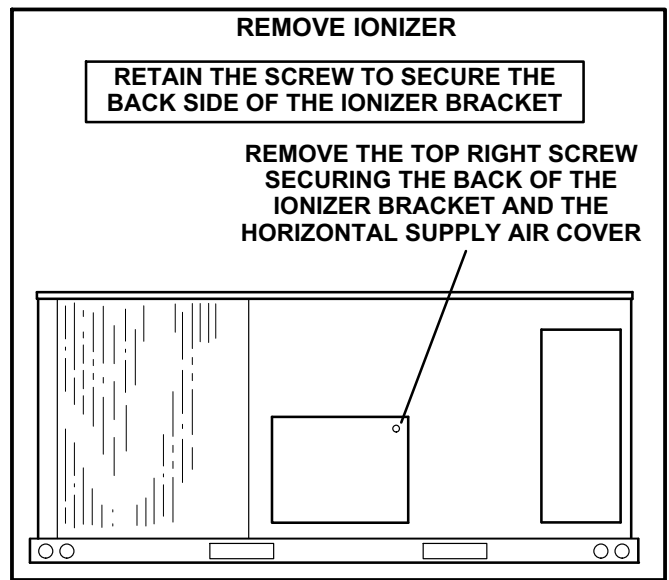

FIGURE 33
- 1- On the back side of the unit, remove the screw securing the back of the ionizer bracket. See figure 33. Retain the screw to secure the back side of the ionizer bracket.